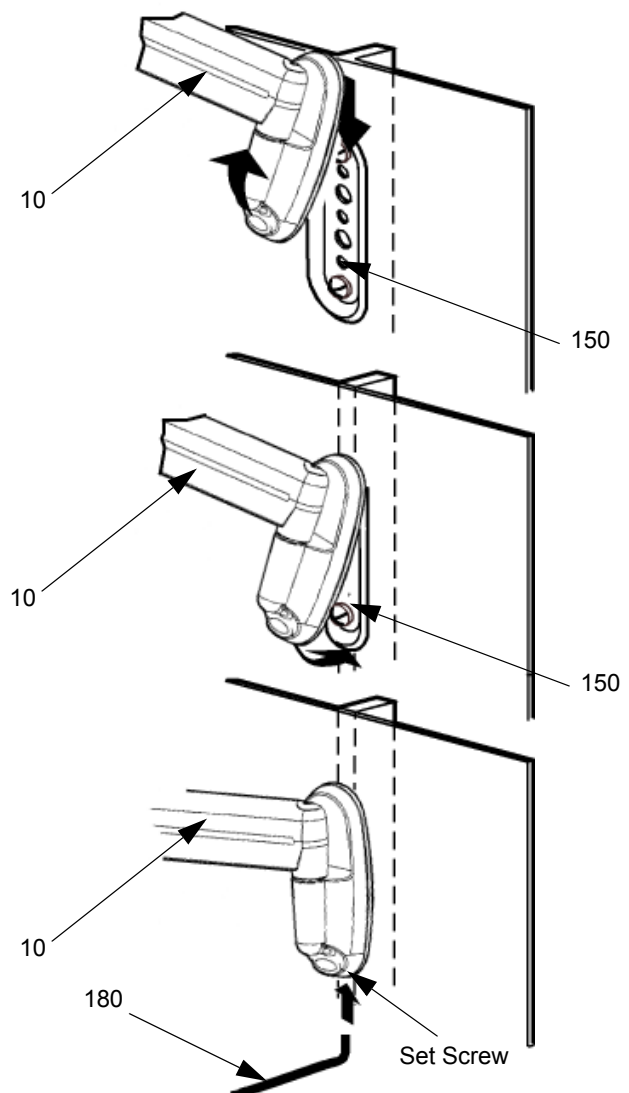

Figure 3: Attach Mount to Wall Bracket
1. Align the top of the mount (10) with the top of the wall bracket (150). Push the bottom of the mount against the bottom of the wall bracket until the mount fits snugly in place. See Figure 3.
2. Using the 5/32" hex wrench (180), secure the mount to the wall bracket by tightening the set screw (see Figure 3). Ensure set screw engages *back* side of bracket to properly secure mount.